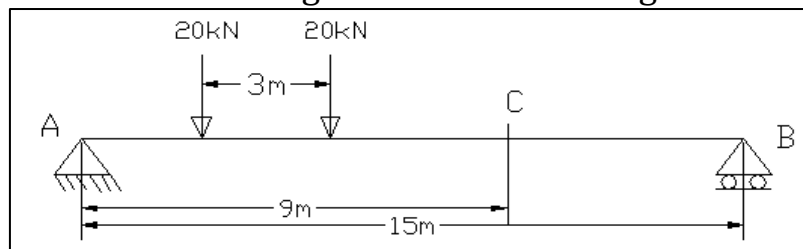

Fig. 4
4. Prepare the ILD for reaction forces, shear forces and bending moments at section C as shown in Fig. 4. Evaluate the maximum value of positive shear and bending moment that can develop at section C under the given series of loading.